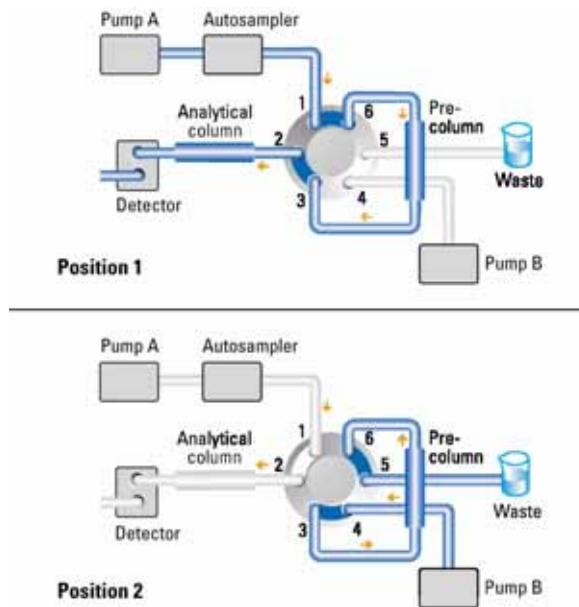

Figure 21 Sample stripping (schematic setup)
**Figure 21** on page 45 illustrates how the Agilent 1200 Series 2 position/ 6 port valve can be used for sample stripping. In valve position 1 Pump A transfers the complete sample matrix onto the pre-column 1, where the matrix is trapped while the analytes are eluted and flushed to column 2 for analysis. Then the valve switches to position 2. Now pump B backflushes the matrix to the waste, while pump A continues to deliver solvent to the analytical column, where the analytes are separated and analyzed.